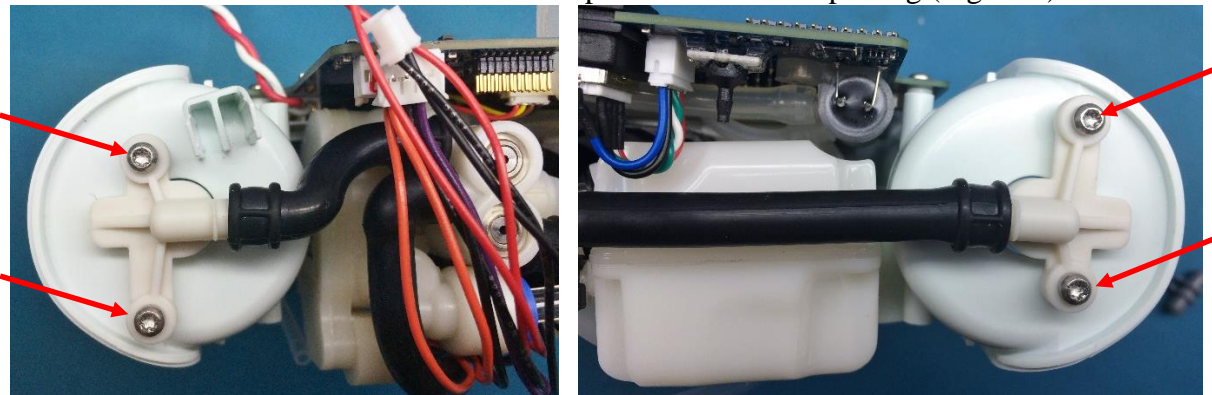

Figure 5: Column Receptacle Screws
4. Remove the two screws from the receptacle that needs replacing (Figure 5).